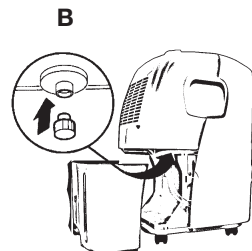

Fig. 7
2. Pull out the water tank, put the water cap from the back of the unit into drain hole (B), found in the compartment (Fig. 7).